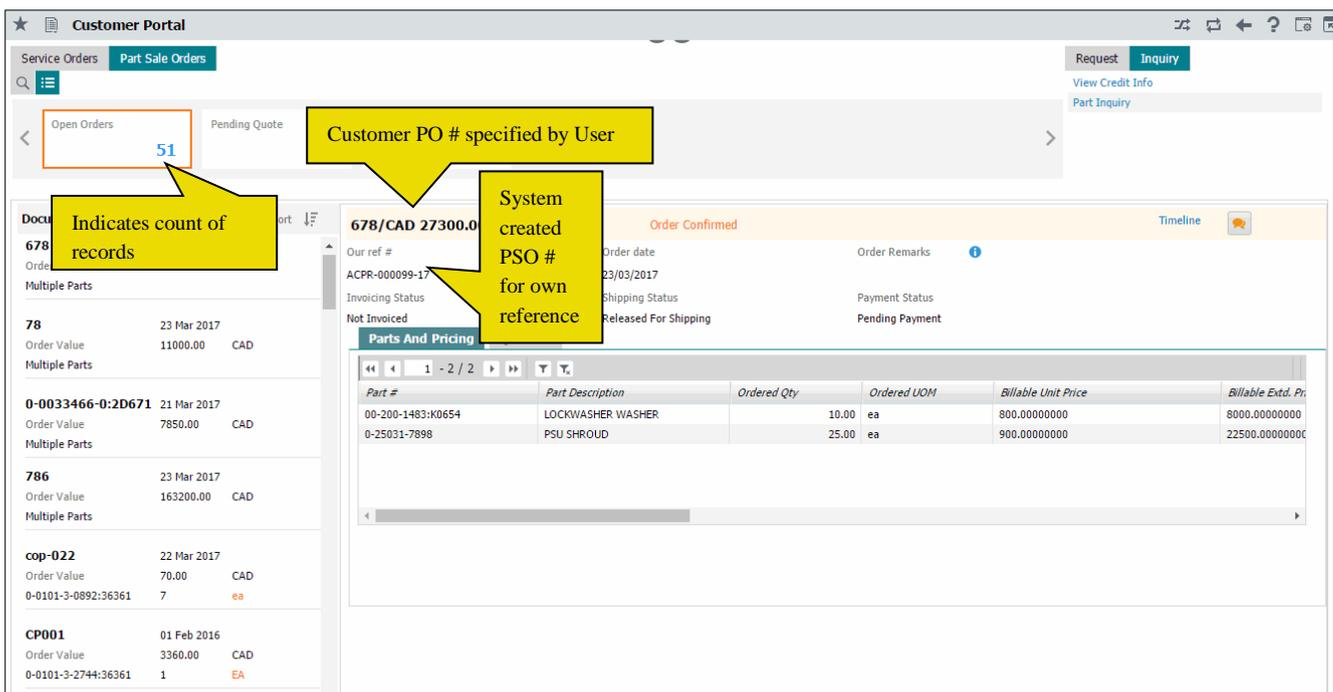

Figure 2.9 Part and Pricing Details
1. Select the **Part Sale Orders** tab in the **Customer Portal** screen in the **Customer Portal** business component. The **Part Sale Orders** tab page appears. See *Figure 2.9*.